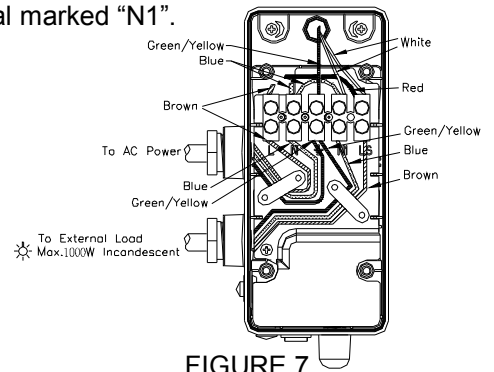

FIGURE 7
- 3) Strip approximately 6mm of insulation from each of the 3 cores of the supply cable, refer to FIGURE 7.